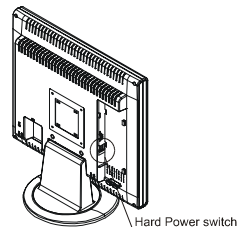

Figure 1-7
1. Turn on the LCD monitor's hard power switch, located on the back of the monitor (See Fig. 1-7)